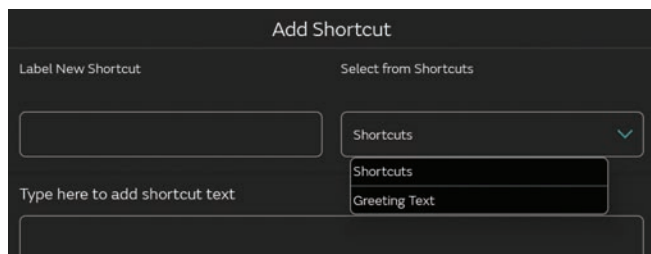

Figure 28. Append Shortcut
2. Tap the down arrow next to Shortcuts and select the Shortcut with the (+) to append (Figure 28) and tap **Save**.